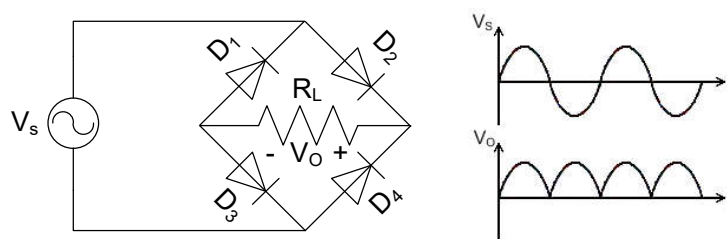

Figure 2.3: Full Wave Bridge Rectifier.
**Full-wave bridge rectifier:** a bridge rectifier overcomes all the disadvantages of described above. Here four diodes will be connected as bridge connection. The circuit diagram and the wave shapes are shown in bellow (figure 2.3) -